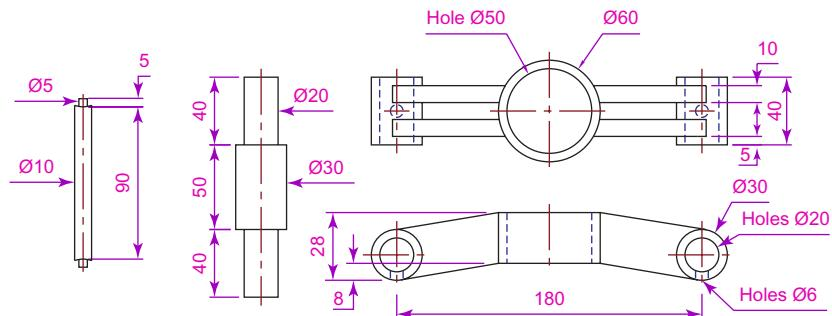

Fig. 19.1 Raster image in a drawing – drawing into which file is to be inserted
This example shows the raster file **Fig05.bmp** of the 3D model constructed to the details given in the drawing Fig. 19.1.
1. Construct the 3D model to the shapes and sizes given in Fig. 19.1 working in four layers each of a different colour.
9. Open the orthographic projection drawing Fig. 19.1 in AutoCAD.